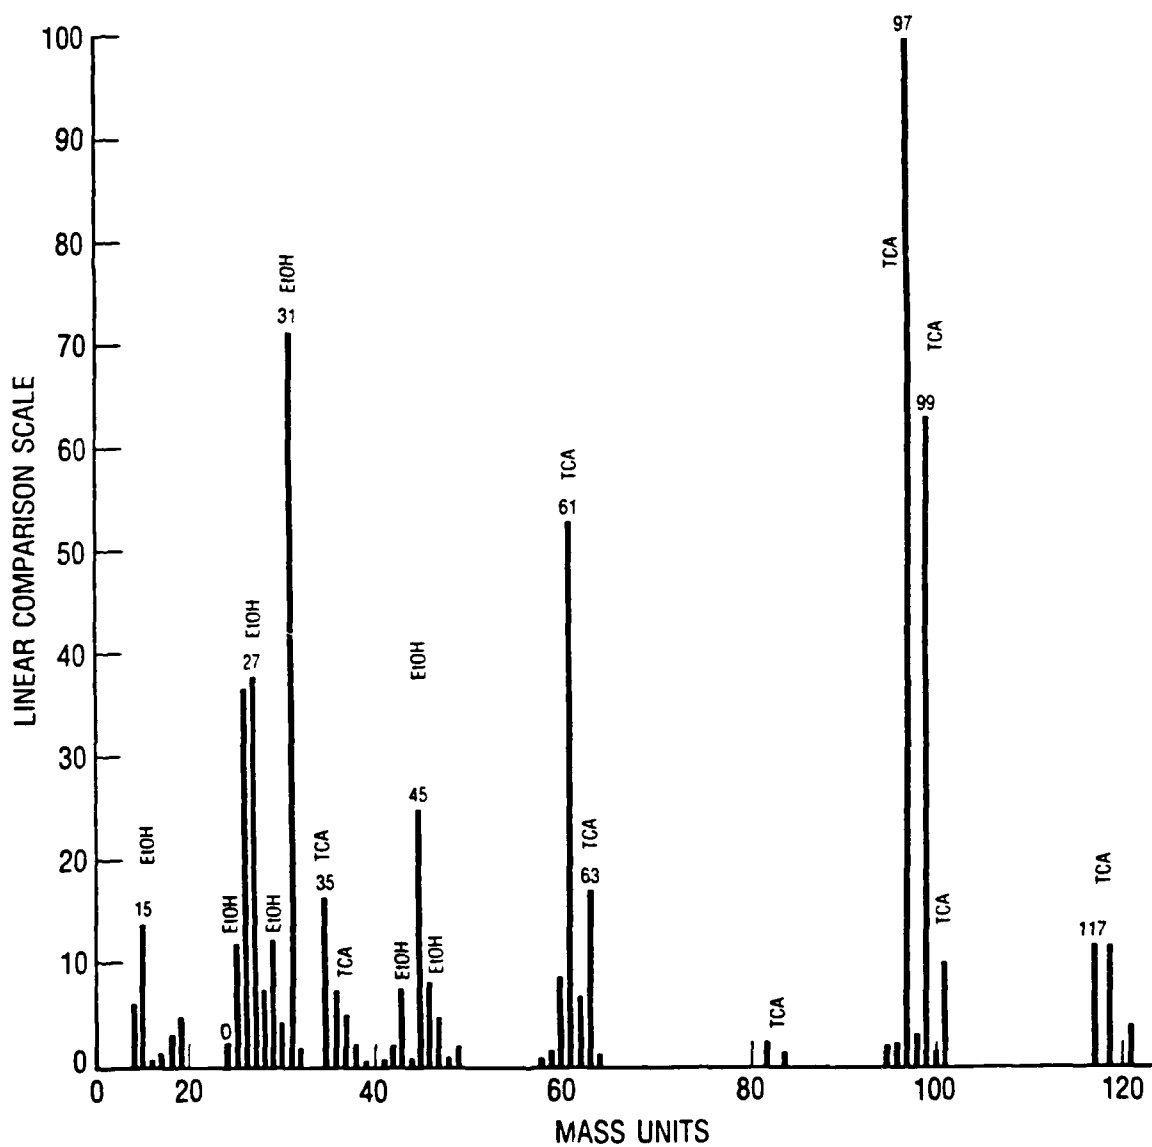

Fig. 1. Mass Spectrum Obtained From NVR Solvent (1,1,1, TCA + EtOH)
Before mixing the solvents (75 TCA: 25 EtOH) together, the NVR of each one should be certified according to the procedure described in ASTM Standard E1235-88, Section 10. If the NVR exceeds 130 ± 10 micrograms, the contaminated solvent should be distilled and the NVR redetermined. Impurities below one ppm may be identified by analyzing solvent vapors in a gas chromatograph (GC) equipped with a hydrogen flame ionization detector. Mass spectrometers (MS) have also been used to obtain information on the identity of solvent constituents. A typical MS spectrum for the NVR solvent used in the method described in Appendix A is shown in Fig. 1.